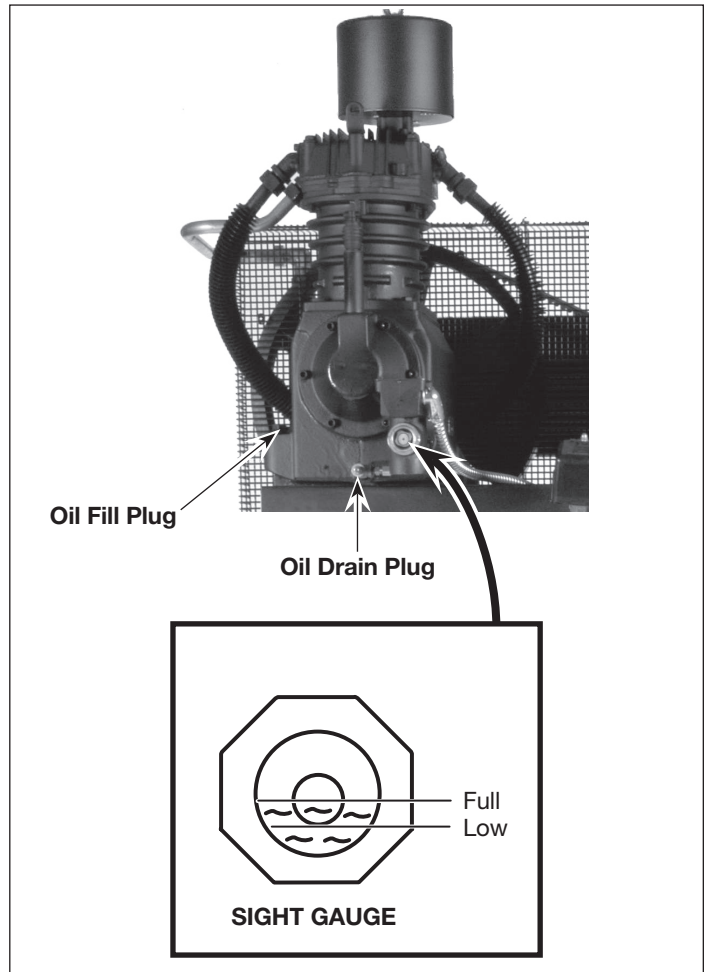

Figure 6
**▲ CAUTION** *THIS UNIT CONTAINS NO OIL. Before operating compressor, fill to the center of the sight gauge (see Figure 6).*
Fill the pump with oil to the center of the sight gauge using oil fill opening (see Figure 6). **Do NOT fill the pump through the breather cap opening as this may cause oil to leak and spray out during operation.**